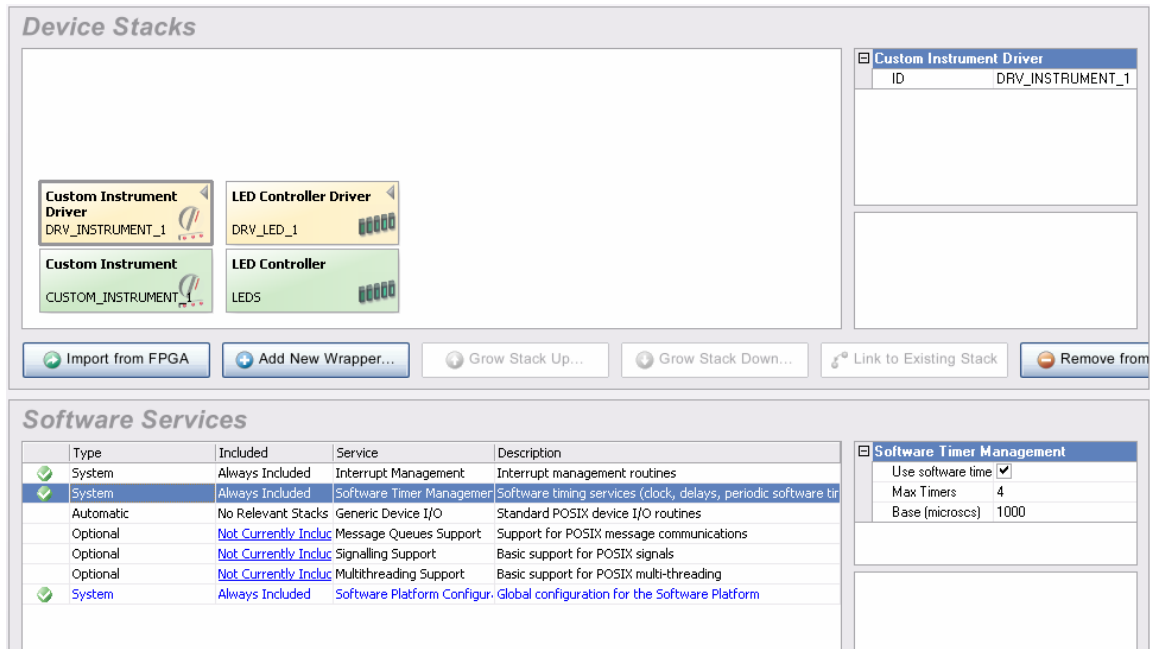

Figure 5. The I/O wrappers and low-level drivers are managed by the Software Platform.
- Click to select the new Custom Instrument wrapper, and then click the **Grow Stack Up** button to open the *Grow Stack* dialog, from where you can add the **Custom Instrument Driver**. Once you have closed the dialog, the software platform will look like Figure 5.